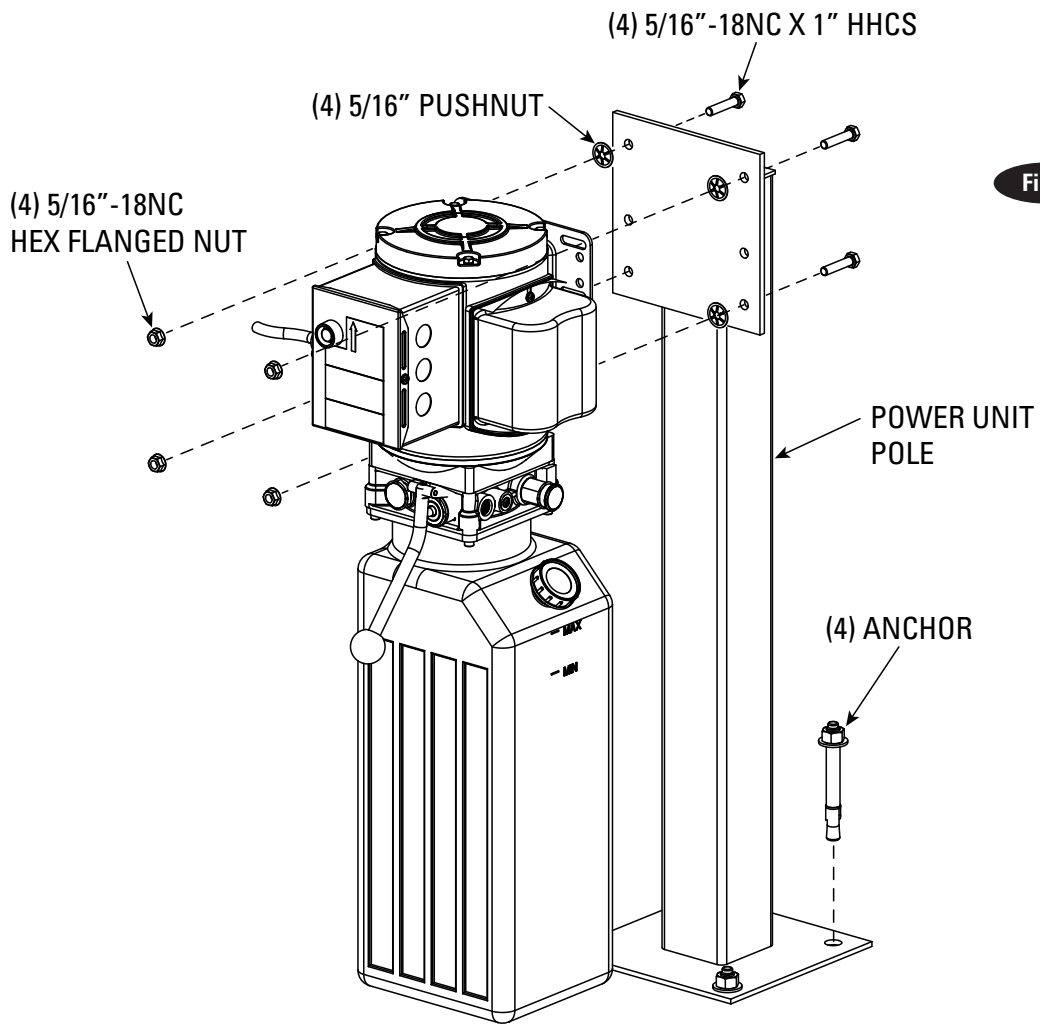

Fig. 3
1. Using the stand as a template mark the location of (4) four floor anchor holes. Using a 1/2" carbide drill bit, drill and install anchors for the mounting post, Fig. 3.
2. Attach (4) four 5/16"-18NC x 1" HHCS to the highest and lowest two holes on the mounting bracket with (4) four 5/16" pushnuts. Attach the power unit using (4) four 5/16"-18NC hex flanged nuts, Fig. 3.